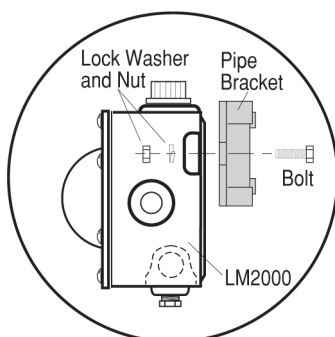

Figure 2A
2. Install the pipe bracket to the LM2000 using two 1/4-20 UNC x 1 inch bolts, nuts and lock washers supplied. See Figure 2A.